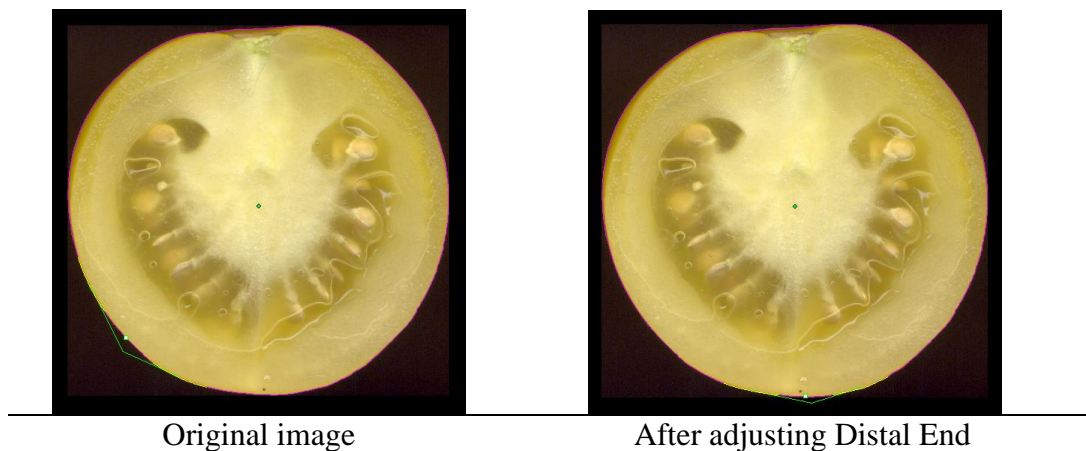

Figure 10 Adjusting the distal endpoint
- c. In the upper-right window, click and drag the vertex indicator to the correct position (see Figure 10).